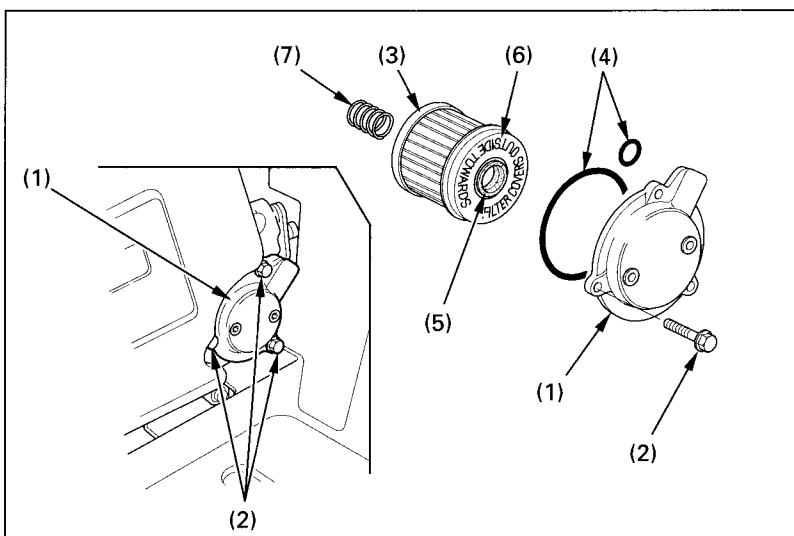

Fig. 4-13 (1) Oil filter cover
(1) Oil drain plug
3. Remove the oil filter cover (1) (Fig. 4-13) by removing the bolts (2). Let the remaining oil drain out. Discard the oil filter (3).
4. Check that the oil filter cover O-rings (4) are in good condition and then install a new oil filter. Use only the Honda genuine oil filter or a filter of equivalent quality specified for your model. Using the wrong Honda filter or a non-Honda filter which is not of equivalent quality may cause engine damage.
5. Install the filter with the rubber seal (5) facing out, away from the engine. You will see the "OUTSIDE (TOWARDS FILTER COVER)" mark (6) on the filter body, near the seal.